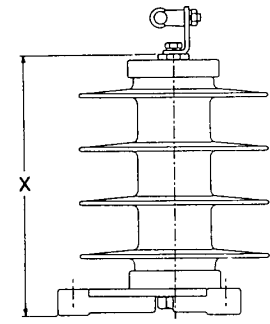

FIGURE 1
- \* Catalog 310XXX Small top, tripod base with 10 inch B.C. For upright and horizontal mounting (see Fig. 1) (Dimensional weights as shown.)
For standard terminals shown in Figures 1, 2 and 3 and standard packaging, order suffix code 3001. For non-standard requirements, contact your Ohio Brass representative.